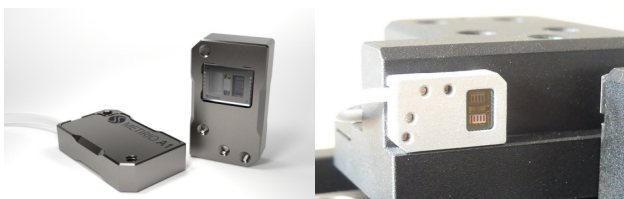

Figure 2. **METIRIO A1** and mounted to **EES**
1. Mount the **METIRIO** Encoder to the slide of the **EES** using two screws, see Figure 2.